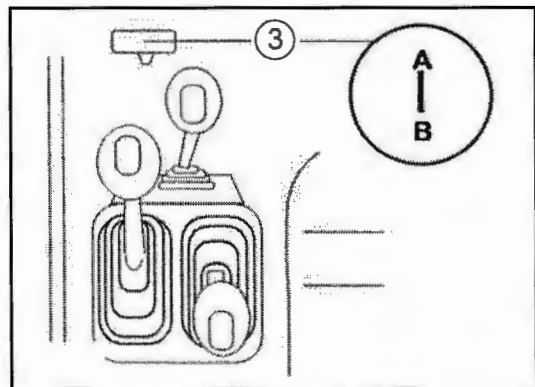

Fig. 16-2 - Creeper Gear Shift Lever
An additional creeper lever (3) is used to select the creeper gear which provides eight additional forward and reverse speeds. (See Fig. 16-2).